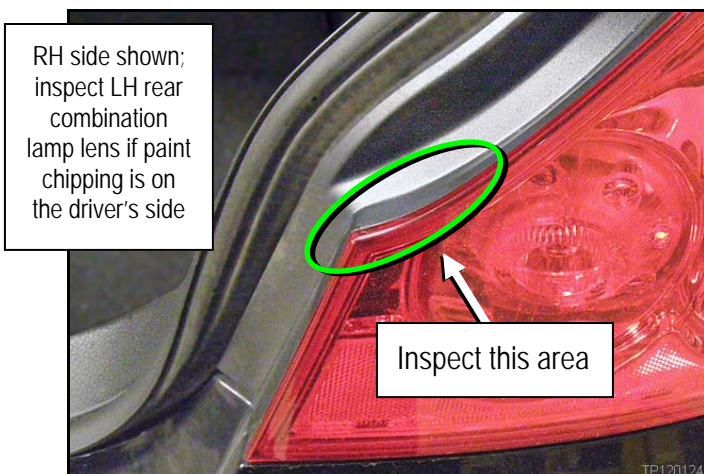
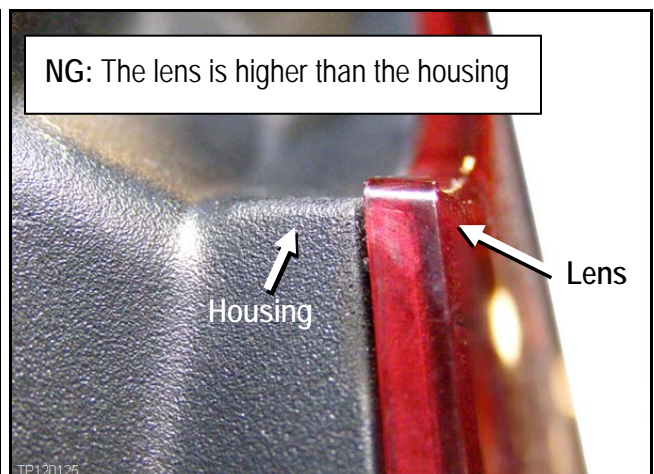

Figure 9
Figure 10
- a. Visually inspect and run your finger along the top of the rear combination lamp lens in the area shown in Figure 9.
- b. If the lens is positioned **above** the rear combination lamp housing (see Figure 10) within the area shown in Figure 9, replace the affected rear combination lamp assembly.